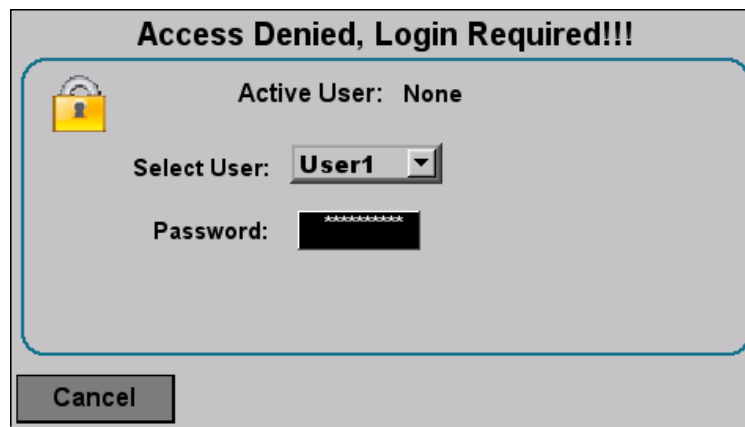

Fig. 2B
The Main Menu displays eight (8) function buttons, Service Info and Alarm Status. The [Setup Door], [Self Closing], [Temperature], [Clock Control] and [Carwash Interface] buttons will require a password to be input to enter these screens. This is to protect the system from being tampered with by unauthorized personnel (See Figure 2B).